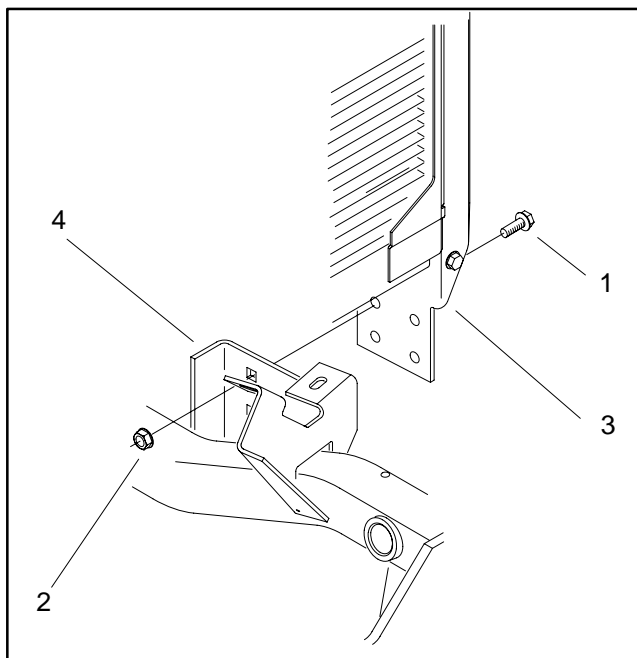

Figure 22
- K. Remove cap screw (10) and flat washer (11) from R-clamp (12). Pull wiring harness and hydraulic hoses away from the engine to keep them from snagging the engine when it is removed. The harness and hoses may be tied to the reservoir support brackets.
- B. Remove cap screws (1) and whiz nuts (2) from the radiator rear bracket (3) and frame (4) (Fig. 22).
E. Install cap screws (1) and whiz nuts (2) to the radiator rear bracket (3) and frame (4) (Fig. 22).